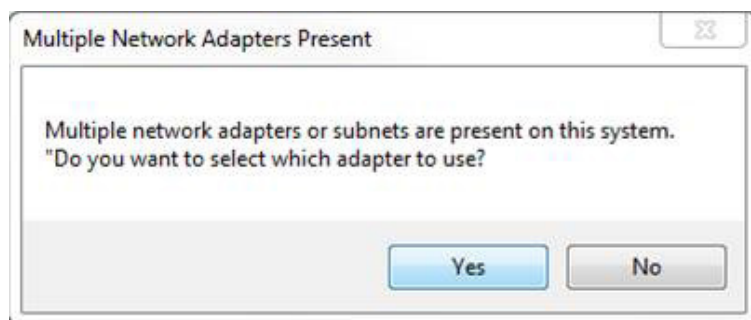

Figure 17 Multiple NIC Cards
2. If the computer has multiple NIC cards, a prompt may appear as shown in Figure 17. Select YES.